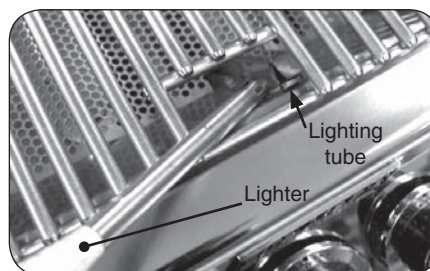

Fig. 11-2 - Manual lighting
2. Insert either a burning long-barrel butane lighter or a burning long-stem match through the cooking grid opening to the top of the lighting tube. (Fig. 11-2). For backburners, hold the flame against the perforated material of the backburner.
4. If the burner does not light, **immediately depress the knob and turn the valve to OFF**. **WAIT FIVE (5) MINUTES** before repeating steps 2 through 4 of the **MANUAL LIGHTING** instructions.